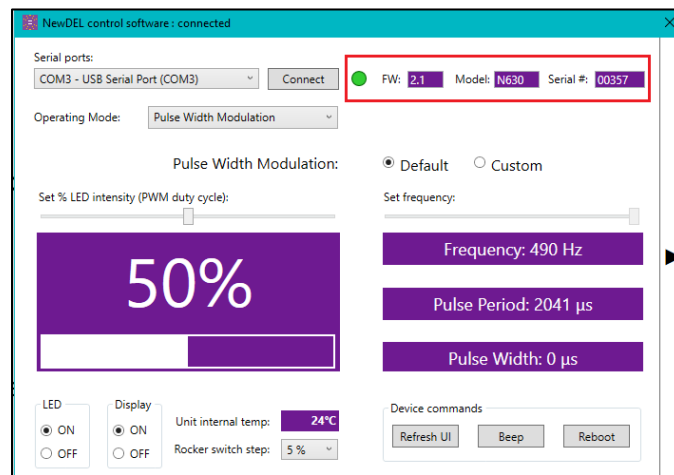

Figure 10 – Automatic connection
Power on the NewDEL Fiber-coupled LED then open the NewDEL software. The connection is automatic indicated by the bright green dot and display of the Firmware (FW) version, Model and Serial numbers (Figure 10).